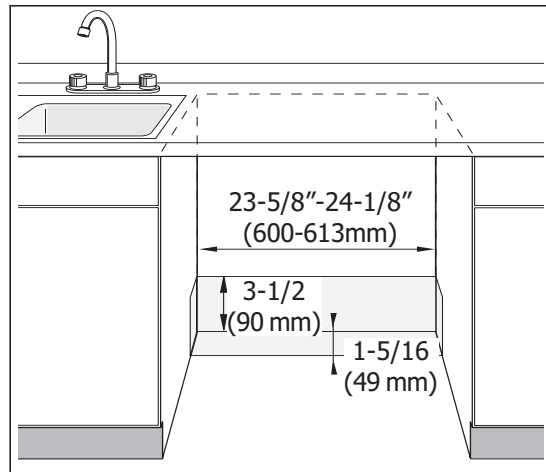

Figure 8
**Openings for electrical lines must be installed in the marked areas as shown in Figures 8 and 9 to avoid interference with the dishwasher frame or other components.**
Openings for drain lines must be installed in the marked areas as shown in Figures 8 and 9 to avoid interference with the dishwasher frame or other components.
Openings for water lines must be installed in the marked areas as shown in Figures 8 and 9 to avoid interference with the dishwasher frame or other components.